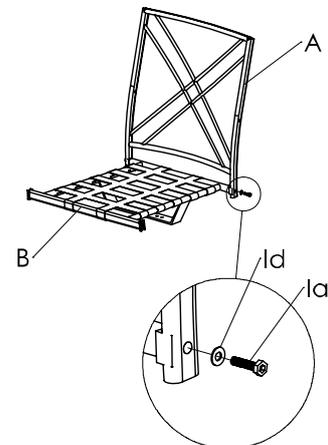

Fig. 1
- a) 4 backs (A)
- b) 4 seats (B)
- c) 4 right arms (C)
- d) 4 left arms (D)
- e) 4 T shaped connectors (E)
- f) 4 rocker bases (F)
- g) 4 center posts (G)
- h) 4 seat and back cushions (H)
- 2) Attach the back (A) to the seat (B), align the holes on the back with the holes on rear crossbar of the seat. For each hole insert an M6×25L bolt (Ia) through an M6 metal washer (Id), through the back, secure into the rear crossbar. Don't tighten completely. Repeat procedure for the other side. See Fig. 1.